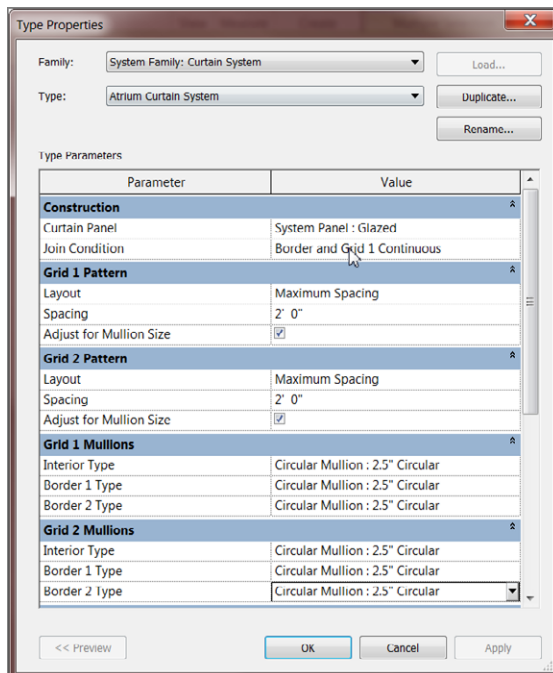

FIGURE 16.48: Configuring the curtain system
9. For the Grid 1 and Grid 2 mullions, select **Circular Mullion : 2.5"** (50mm Radius) **Circular** for Interior Type as well as the Border 1 and 2 types, as shown in Figure 16.48.